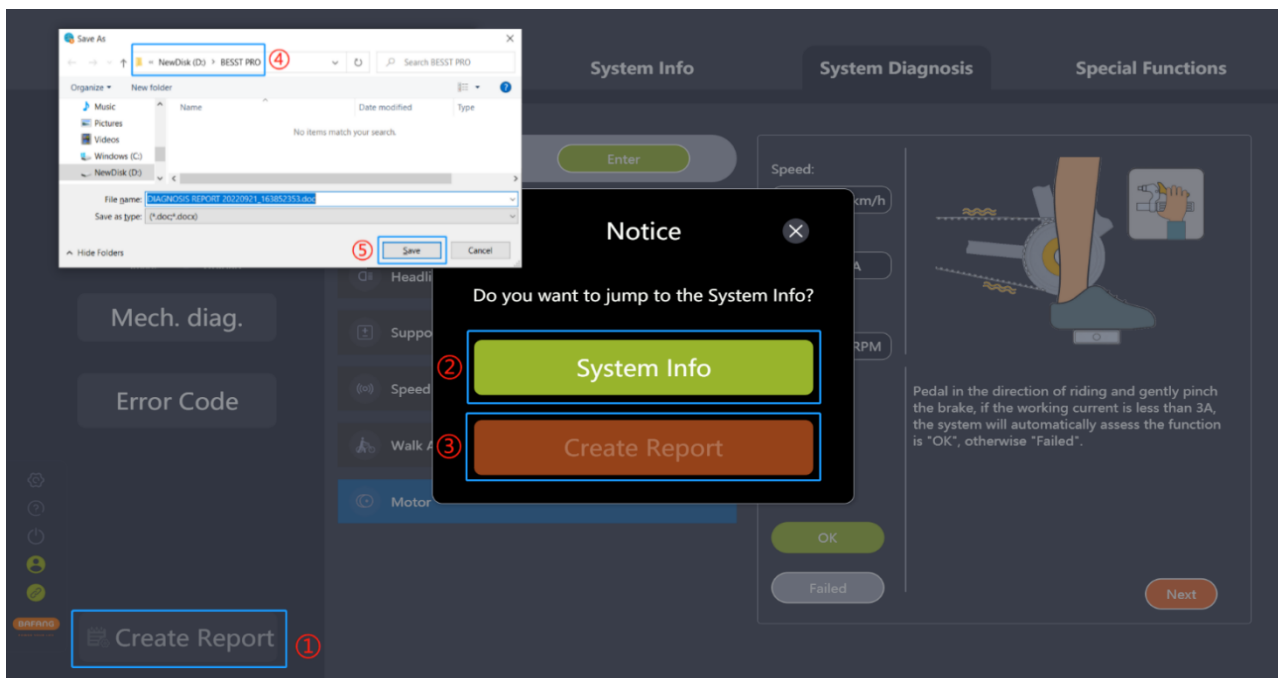

Fig. 7-8 Create report in System Diagnosis
- (1) Click on the "Create Report" icon and a pop-up will prompt "Do you want to jump to the System Info?" (Fig.7-8).
- (2) To read system information, click "System Info" to jump to the system information interface.
- (3) Click on the "Create Report" icon.
- (4) Select the local save path.
- (5) Click the "Save" icon to generate a PDF report.